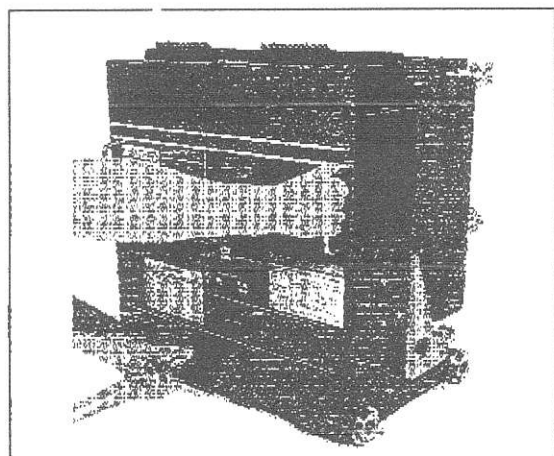

Fig. 27 Inserting Racking Handle
- 3) Insert the racking handle as shown in Fig. 27.
- 3) Insert the racking handle (Fig. 27).